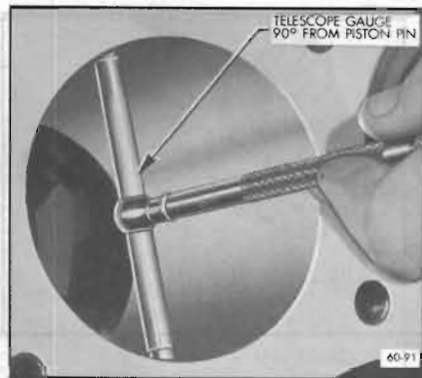

Figure 60-232—Checking Cylinder Bore
1. Expand a telescope gauge to fit the cylinder bore at right angles to the piston pin and between 1-1/2" and 2" from the top. See Figure 60-232.